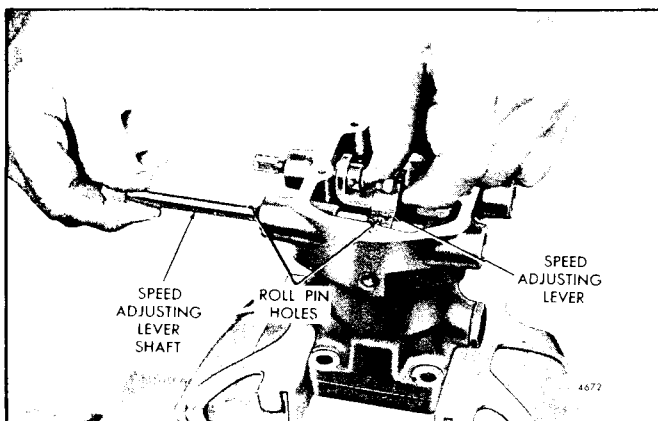

Fig. 17 - Installing Speed Adjusting Lever Shaft in Governor Housing and Adjusting Lever
- b. Lubricate the speed adjusting lever shaft with engine oil. Rotate the shaft so the machined slot in the outside diameter of the shaft is in the same position it was in at the time of removal. Then insert the shaft in the shaft bushing in the housing, from the oil inlet plug side, with the roll pin hole in the shaft and lever in alignment (Fig. 17).